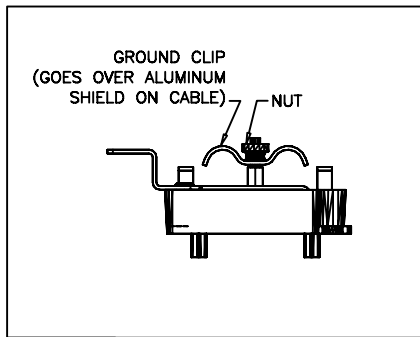

FIG. 1
3. REMOVE NUT AND GROUND CLIP (FIG. 1).